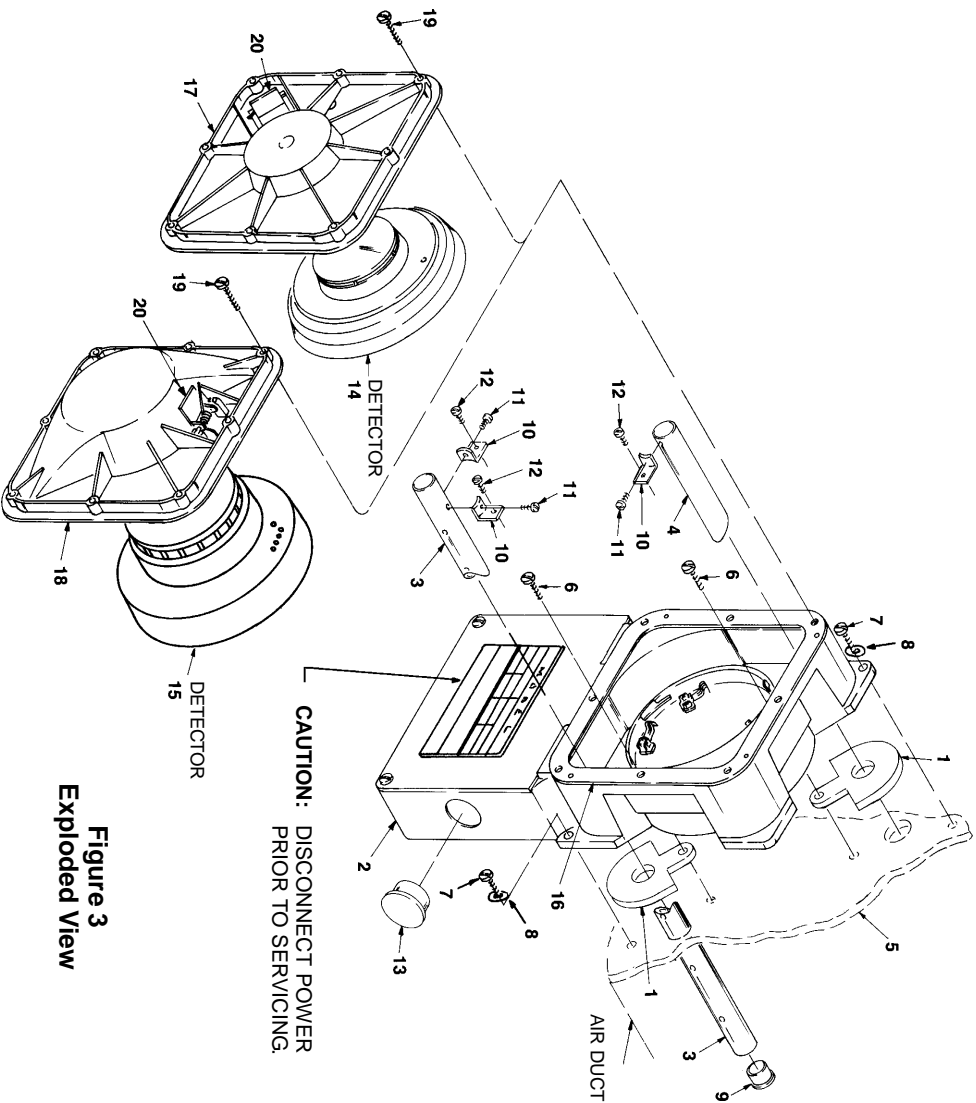
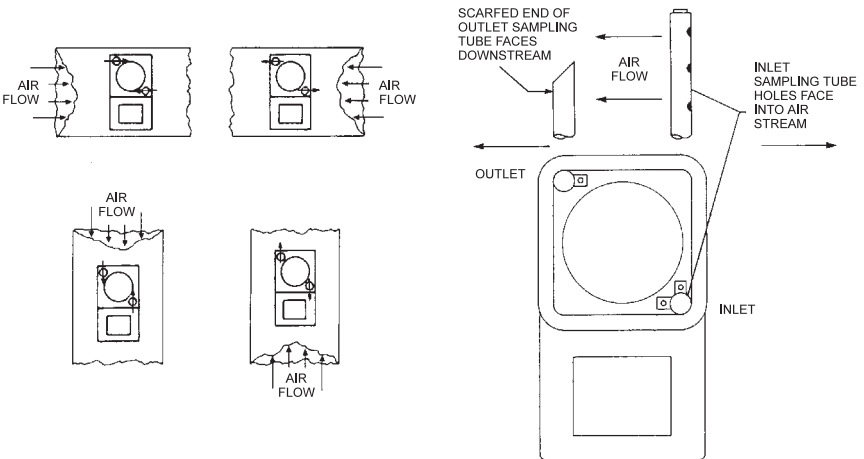

Figure 3
Figure 4
Mounting of the Air Duct Housing (See Figure 3)
Trimming the Inlet Sampling Tube (See Figure 4)
- d. Trim tube to the correct length, remove all burrs, and insert a rubber stopper (Figure 3, Item 9) in the tube.
NOTE: When attaching brackets, be sure to align tubes properly (See Figure 4).
- c. Install the inlet tube (3) by inserting it through the air sampling chamber as shown in Figure 3. Face sampling tube holes into the air stream (Figure 4), and secure to the housing with $\frac{8}{32}$ screws (12).
- d. Install the outlet tube (4) by inserting it into the upper socket of the air sampling chamber with the scarfed end facing downstream (See Figure 4). Secure the bracket to the housing with an $\frac{8}{32}$ screw.
- e. Make sure no sampling holes extend beyond the ductway, that the stopper (9) remains firmly in position, and that the duct hole is sealed around the protruding sampling tube.
CAUTION: Air Duct Detector Models AD-3I/3ILP are designed only for those detectors shown in the Smoke Detector Compatibility section (See Tables 1 and 2). Do not use any other detector (See Figure 3, items 14 and 15).
- a. Install the cover gasket (Figure 3, 16) on the housing, if not already installed. Be certain the alignment holes in the cover gasket are aligned with the guides on the housing.
- b. Install the sensing compartment ionization cover (17) when using DI-B3, DI-B3H, ILI-1B, or ILI-1BH detectors and the photoelectric cover (18) when using an ILP-1 or ILP-2 detector.
- c. Fasten the cover, using the No. 6 screws (19) provided. Tighten snugly, but not so tightly as to warp the cover and cause air leakage around the edges of the cover.